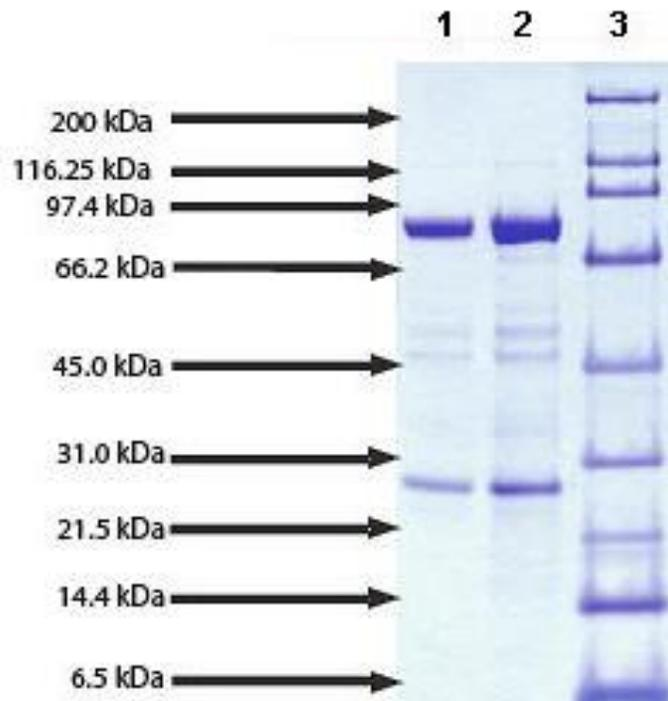

Figure 12.6 SDS-PAGE Practice Gel
1. Figure 12.6 shows a picture of an SDS-PAGE gel that has been stained with Gel-Code Blue stain.